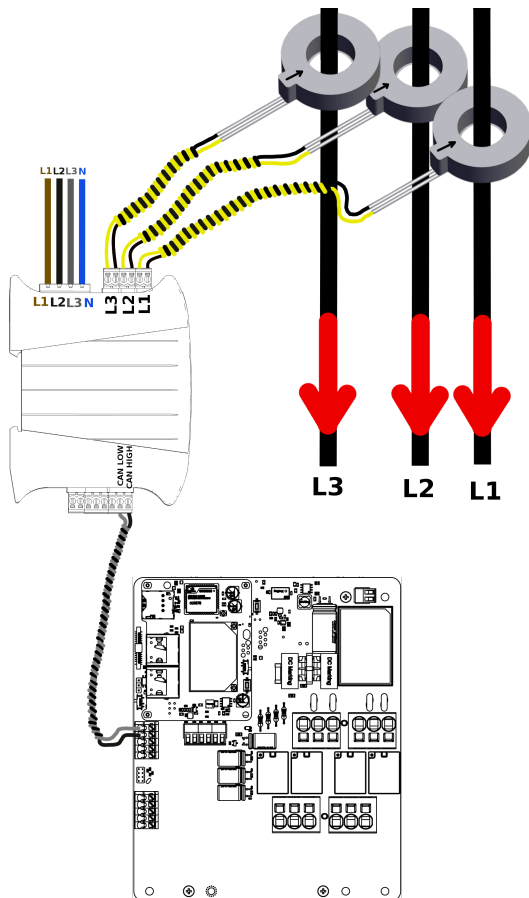

Fig. 5: Energy Guard 3-phase variant connection diagram.
3. Voltage lines (power supply) EEG should be connected under the order indicated in the diagram [Fig.5]. The device does not require additional protection. The cables on the switchboard side should be connected to the terminals of the apparatus located before branching the circuits in the switchboard (e.g. a meter or the main protection - overcurrent switch). We suggest using stranded type cables with a core cross-section of $0,5 \text{ mm}^2$.